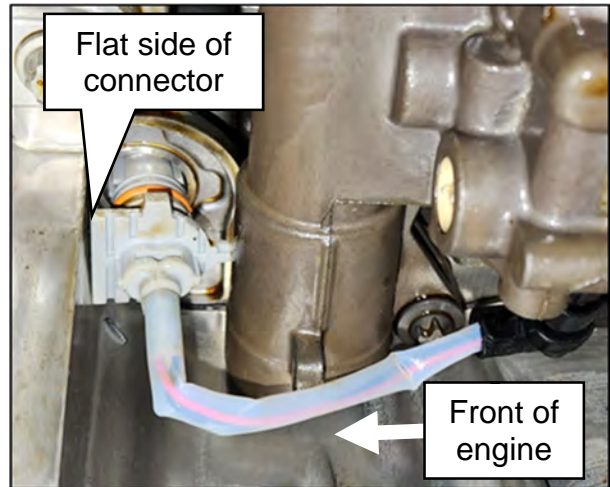

Figure 24
- Orient the connector so that the flat side faces the front of the engine as shown in Figure 24.